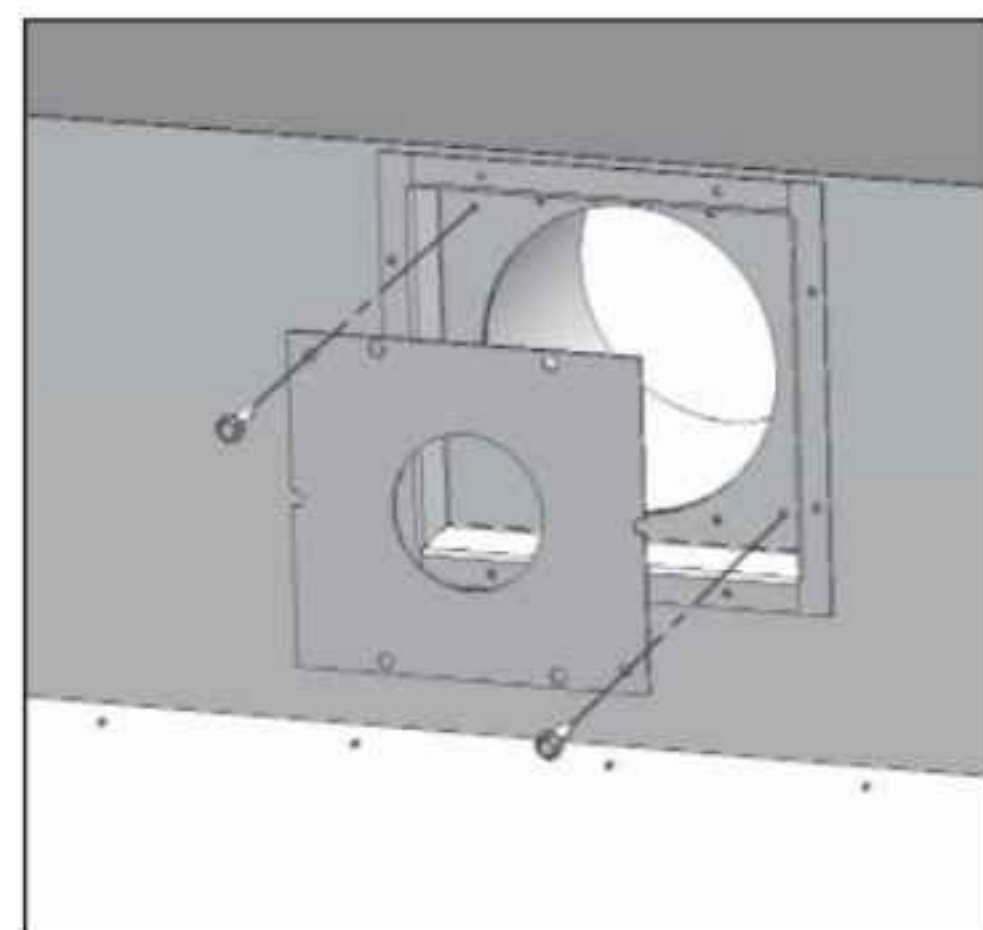

**Figure 25: Installation of Flue Restrictor.**
- 5) Using the two (2) ¼" T-20 screws provided with the restrictor, fasten the Restrictor into the Flue Outlet as shown in Figures 25 & 26. Make sure the diagonal holes line up with the diagonal holes located in the Flue Outlet Box. Use a powered driver to drive the screw in. Be careful not to over-torque the screw and strip the threads.